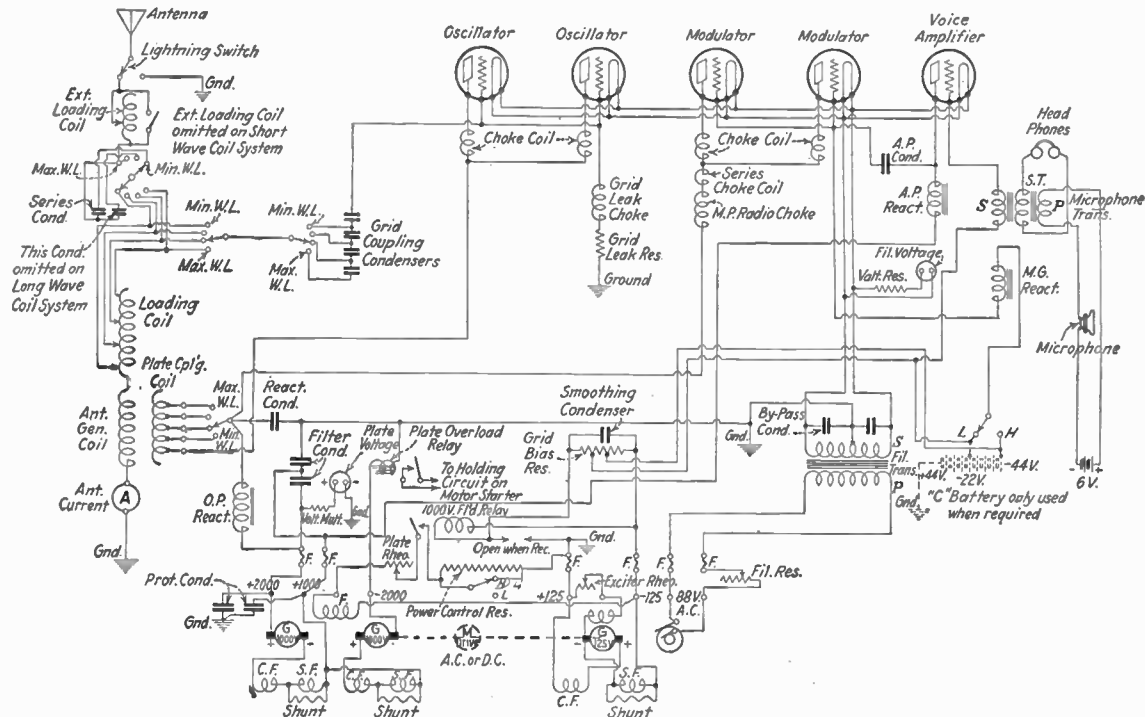

FIG. 7D.
*Ans.* Figure 7D illustrates a complete diagram of a radiophone transmitter.